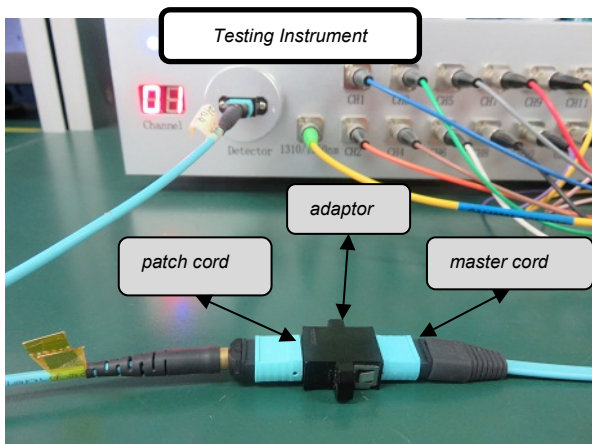

Figure 2
- 1.2 Test A side firstly, insert adaptor onto the master cord, clean and inspect the end-face of the being test patch cord; after confirming qualified, insert one side onto the adaptor, this called the being test connector; insert another side onto the instrument optical receive port, as shown in Figure 2